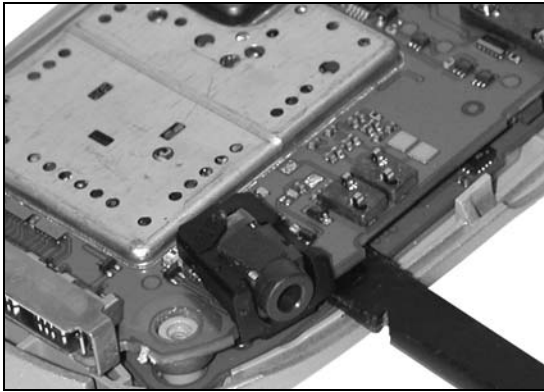

Figure 7-7.
2. Separate Main and Controller Boards. Do not strain full-sized display Flex-Connector. Boards may be held together by adhesive pad. Separate carefully to avoid bending either board (see Figure 7-7).